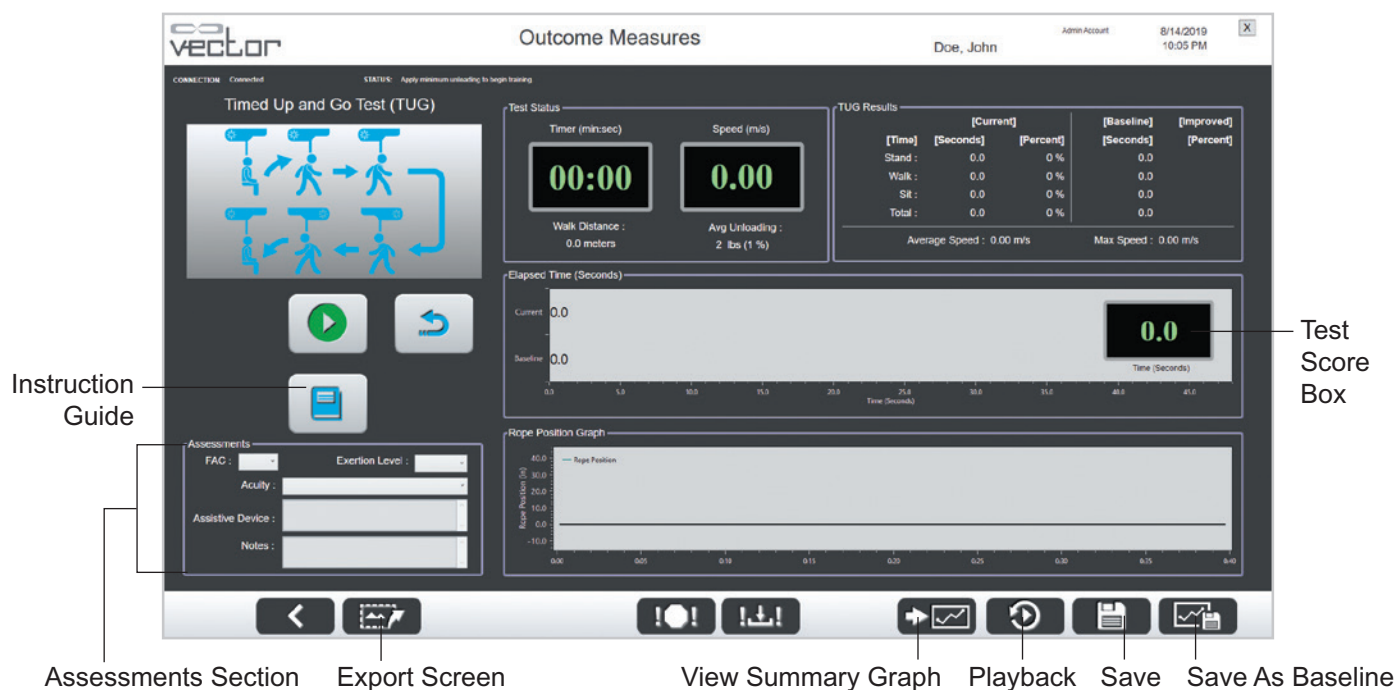

Figure 7-5: Outcome Measures TUG Test Screen (Test Results, Graphs, and Buttons)
7. The test results and graphs are displayed on the screen. The TUG test time is displayed in the Test Score Box. To review the test, press the Playback button. See Figure 7-5.
8. Complete the Assessments section. See Figure 7-5.
9. **You must press the Save Button to save test results.** See Figure 7-5. If the button is not pressed before starting another test run or before leaving the screen, the current test run results will not be saved to the patient summaries.
10. To save the current test as a baseline for the Outcome Measures TUG Test press the Save As Baseline button. See Figure 7-5.
11. To export the current test screen as a screen capture image, press the Export Screen button. See Figure 7-5. When the Export Screen button is pressed, the software saves the test screen as a PNG file and a Save As window will appear. Select the location to save the file and press the Save button.
Note: When pressed, the Instruction Guide button found on the Outcome Measures TUG Test screen, opens a window that displays the TUG Test Instructions from this guide. See Figure 7-5.